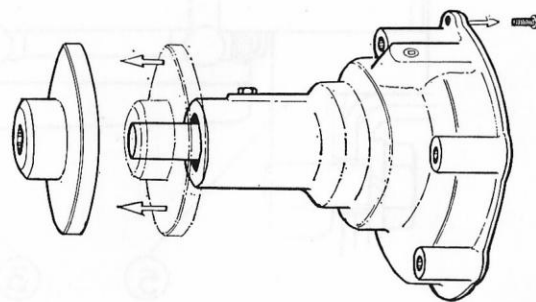

Fig. 7-3
- (1) Remove the water pump cover.
- (2) Remove the fan center with the aid of puller. (See Fig. 7-3)